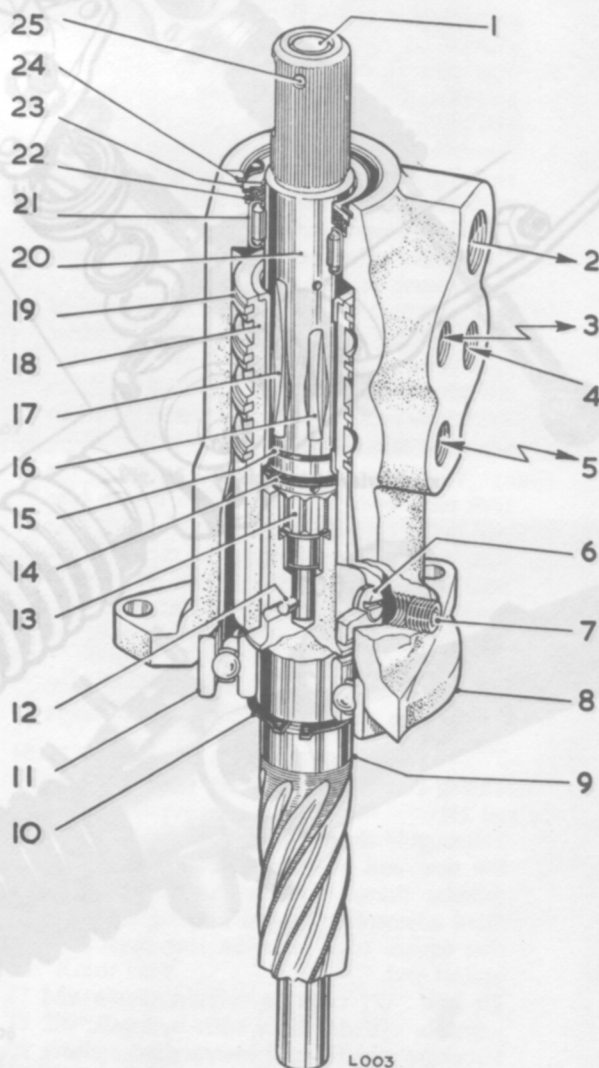
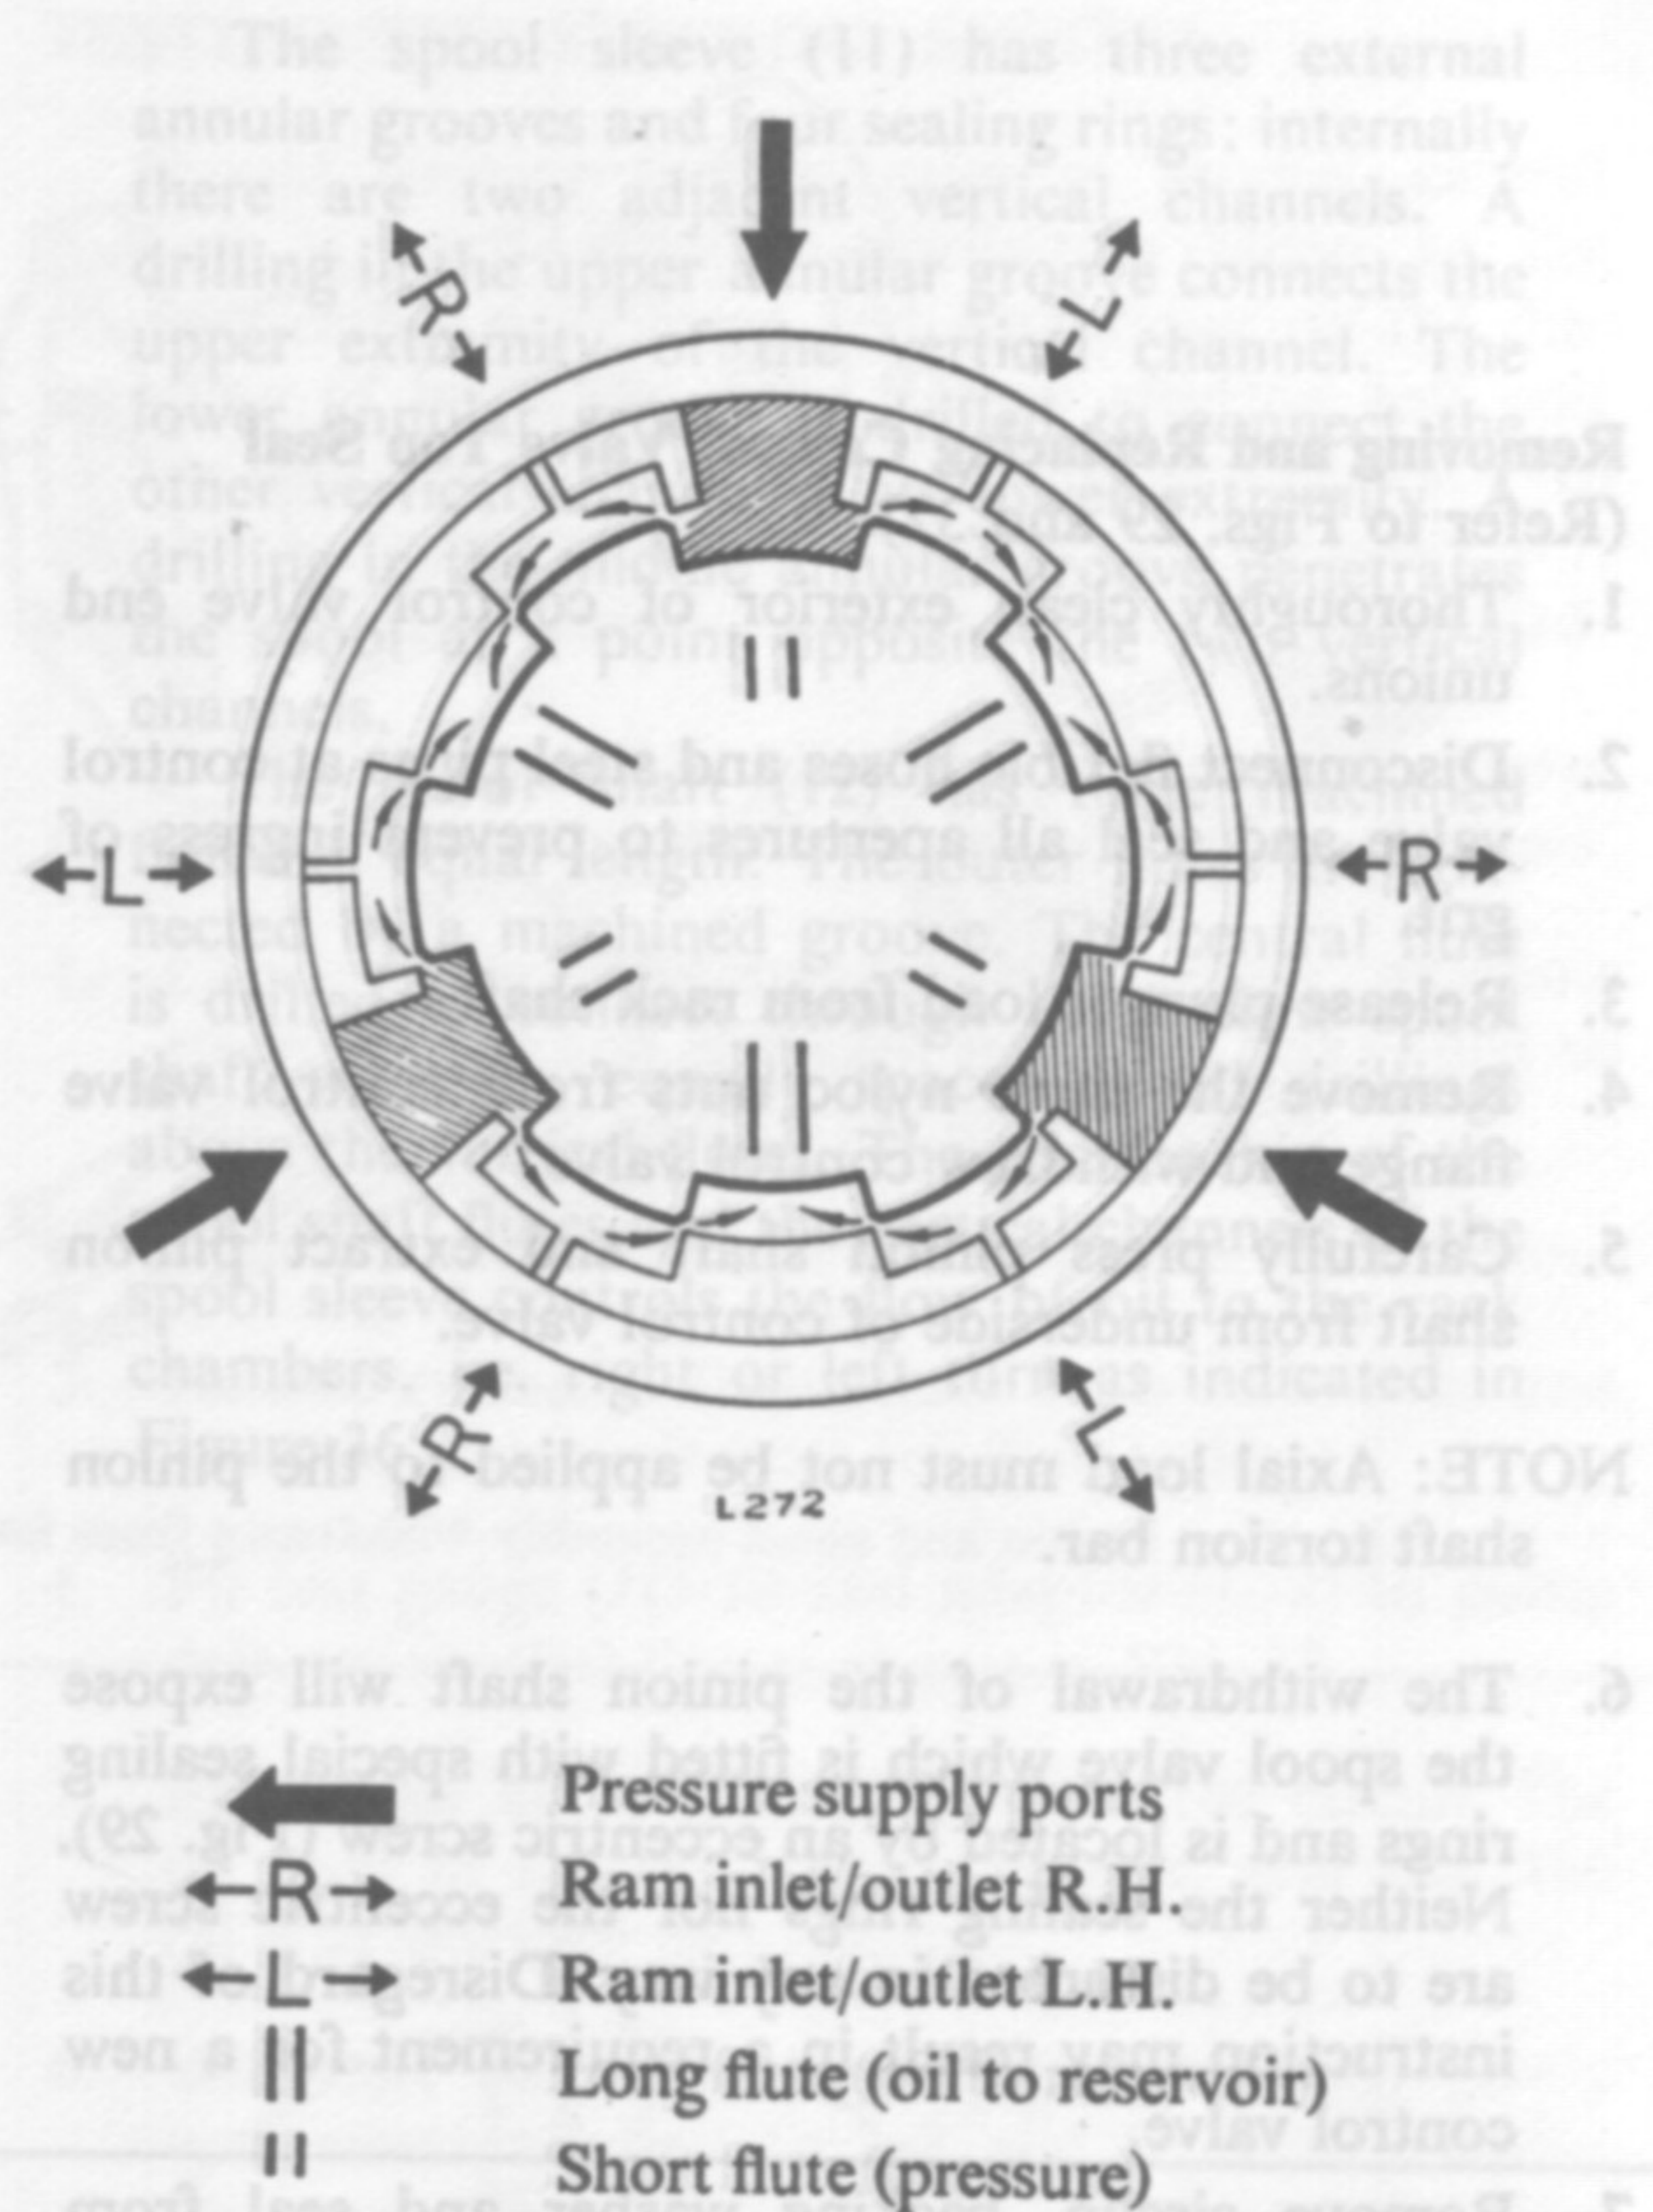

Fig. 29. The control valve and pinion assembly
Fig. 30. Oil flow in neutral
The steering rack control valve is a combined pinion shaft and spool assembly, through which oil flow from the hydraulic pump is directed to either side of the rack piston as required. A cutaway view of the control valve is shown in Fig. 29 together with a sectioned plan view (Fig. 30). From these illustrations the construction and principle of operation can be seen.
When assembled, the shaft and sleeve are as shown in Fig. 30, i.e. with the centre circumferential groove drillings aligned with the short flute and the smaller drillings in the top and bottom grooves aligned with the plain (unfluted) surface of the shaft. As illustrated (Fig. 30) this is neutral or straight ahead position, a
position which provides no steering assistance. This delicate relationship of sleeve and shaft is the responsibility of the eccentric screw shown in Fig. 29. *No adjustment* must be made to the eccentric screw in service.
When the torsion bar is no longer subjected to deflection, i.e. when effort has ceased to be applied to the steering wheel rim, the shaft flutes are restored to their neutral position (Fig. 30) and pressure differences within the ram chamber are cancelled.
Removing and Replacing Control Valve Top Seal (Refer to Figs. 29 and 32)
6. The withdrawal of the pinion shaft will expose the spool valve which is fitted with special sealing rings and is located by an eccentric screw (Fig. 29). Neither the sealing rings nor the eccentric screw are to be disturbed in any way. Disregard of this instruction may result in a requirement for a new control valve.